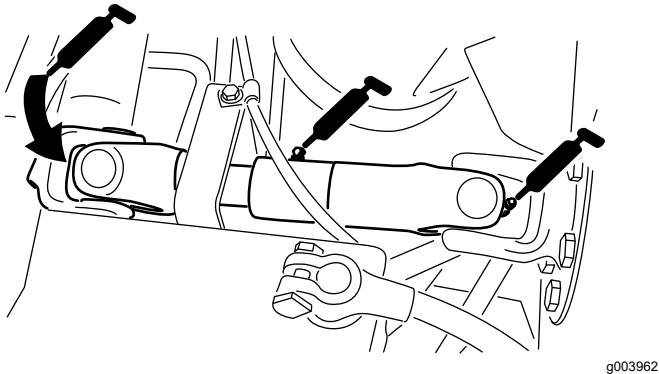

Figure 41
- Pump driveshaft U-joint (3)—Figure 41